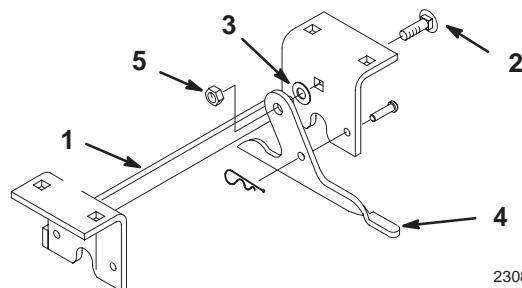

Figure 12
1. Install latch levers to mounting plate with carriage bolts (3/8 x 1 inch), washers (3/8 inch) and lock nuts (3/8 inch) (Fig. 12).